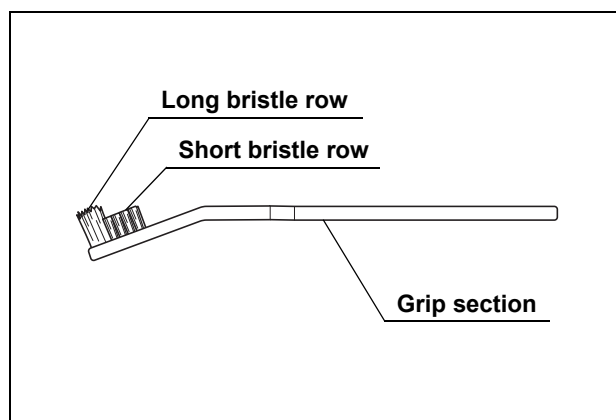

Figure 7.8
The cleaning brush is used to brush the external surface of the distal end of the endoscope (see Figure 7.8).
1. Check the brush head for loose or missing bristles (see Figure 7.8 on page 93).